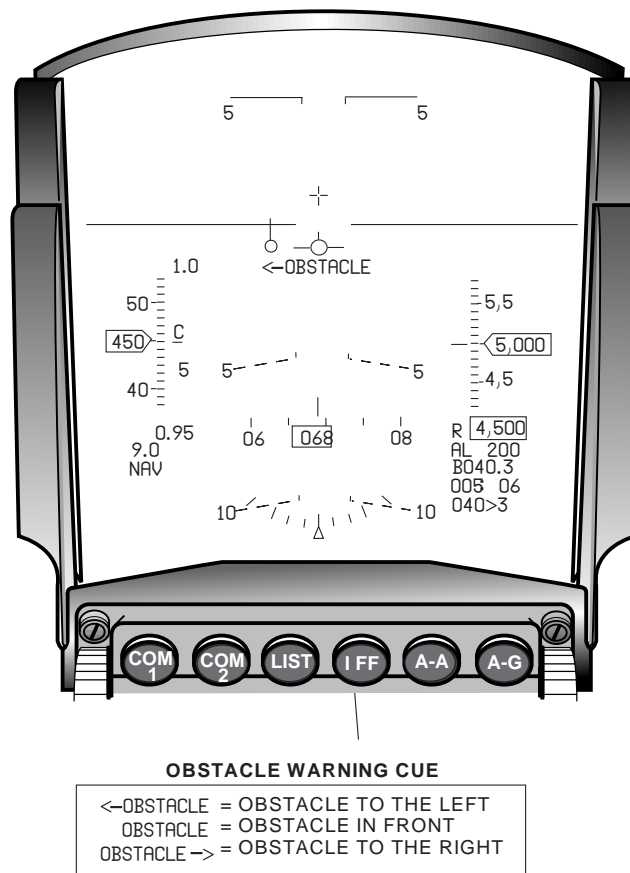

Figure 2-39 Obstacle Warning on the HUD
**OW/C Warnings and Advisories.** When the aircraft flight path approaches an obstacle at an altitude at or below an obstacle's "adjusted height", a warning cue will be displayed on the HUD to indicate the obstacle's relative position (Figure 2-39). For obstacles directly in front of the aircraft, the word "OBSTACLE" will be displayed. "OBSTACLE->" and "<-OBSTACLE" will be displayed to depict obstacles to the right and left of the flight path, respectively.